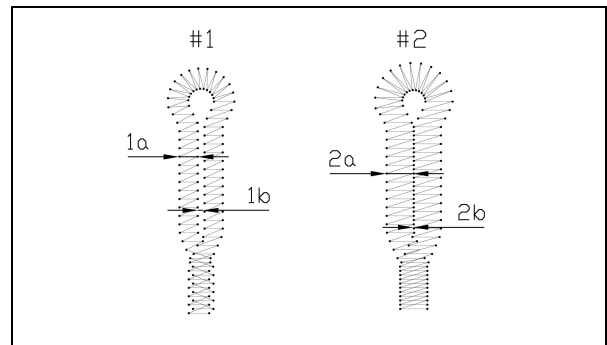
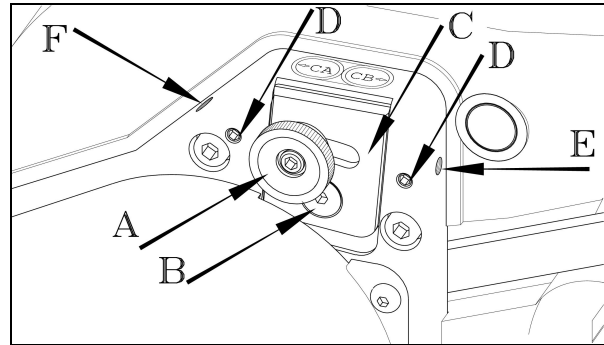

Fig 3
Fig 1
Move the adjusting screw (A) to the CB position and tighten. Turn the machine through the stitching cycle, producing needle imprints on the paper. Refer to Fig 3, picture #2. Measure the width of the stitch bite. It should be 3.2mm as shown in 2a. Move the adjusting screw (A) forward to increase the stitch bite, or backwards to decrease. Once the correct stitch bite is set, tighten screw (A). Turn the adjusting screw (E) inwards to lightly touch the adjusting plate. Tighten the set screw (D).
Move the adjusting screw (A) to the CA position and tighten. Turn the machine through the stitching cycle, producing needle imprints on the paper. Refer to Fig 3, picture #1. Measure the width of the stitch bite. It should be 2.4mm as shown in 1a. Move the adjusting screw (A) forward to increase the stitch bite, or backwards to decrease. Once the correct stitch bite is set, tighten screw (A). Turn the adjusting screw (F) inwards to lightly touch the adjusting plate. Tighten the set screw (D).
Move the adjusting screw (A) to the CB position and tighten. Refer to Fig 3, picture #2. Check the cutting space between the two rows of stitches. It should be set at zero; i.e., no cutting space as shown in 2b.
Move the adjusting screw (A) to the cut after position and tighten. Refer to P19, Fig 3, picture #1. Check the cutting space between the two rows of stitches. It should be set at 0.3mm as shown in 1b. Loosen screw (B) as shown in Fig 1 and move the adjusting plate (C) upwards to increase the cutting space, or downwards to decrease.